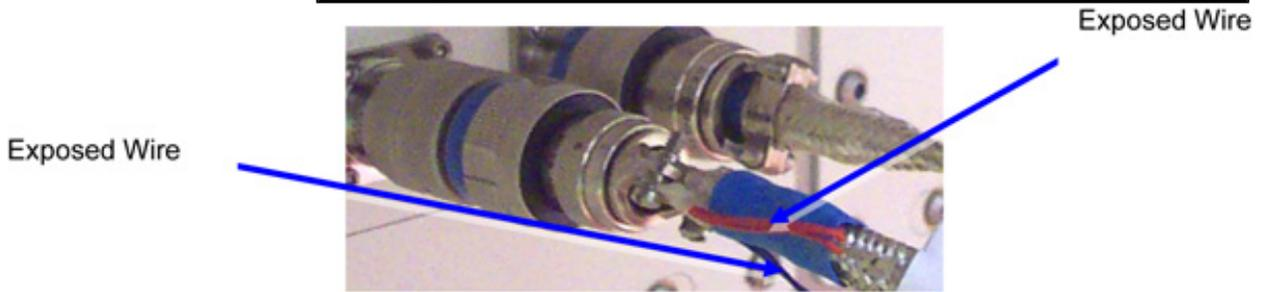

Figure 5-1 Exposed Thin Wires
3. Connectors J43, J46 and J47 are equipped with some exposed, unbundled thin wires (refer to Figure 5-1), pay attention when mating.